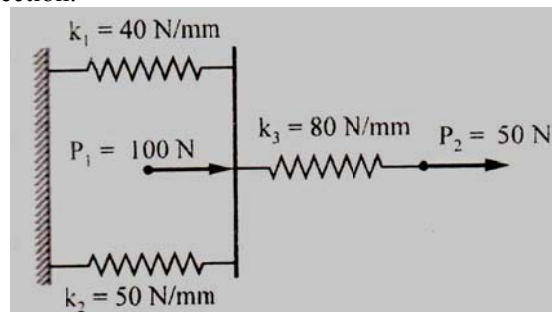

Fig. 2
- (b)** A three spring systems are shown in fig 2. Calculate the displacement at nodal points and deflection. **07**